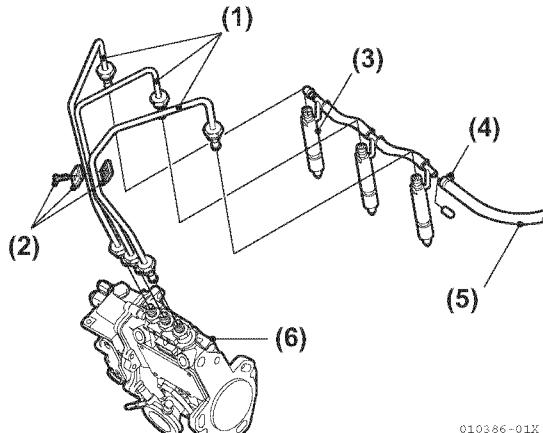
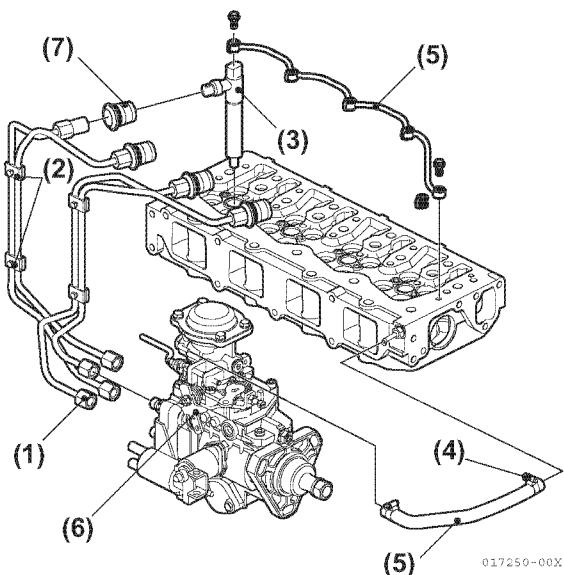

Figure 6-13
Figure 6-14
7. Install the fuel injection lines (**Figure 6-13, (1)**) and (**Figure 6-14, (1)**). See *Fuel Injection Nozzle Installation* on page 6-15.
8. If removed, install clamp(s) (**Figure 6-13, (2)**) and (**Figure 6-14, (2)**).
9. Install injection nozzle return fuel lines (**Figure 6-13, (4)**) and (**Figure 6-14, (4)** and **(5)**). See *Fuel Injection Nozzle Installation* on page 6-15.
10. 4JH4-TE and 4JH4-HTE: Install pipe seal (**Figure 6-14, (7)**).